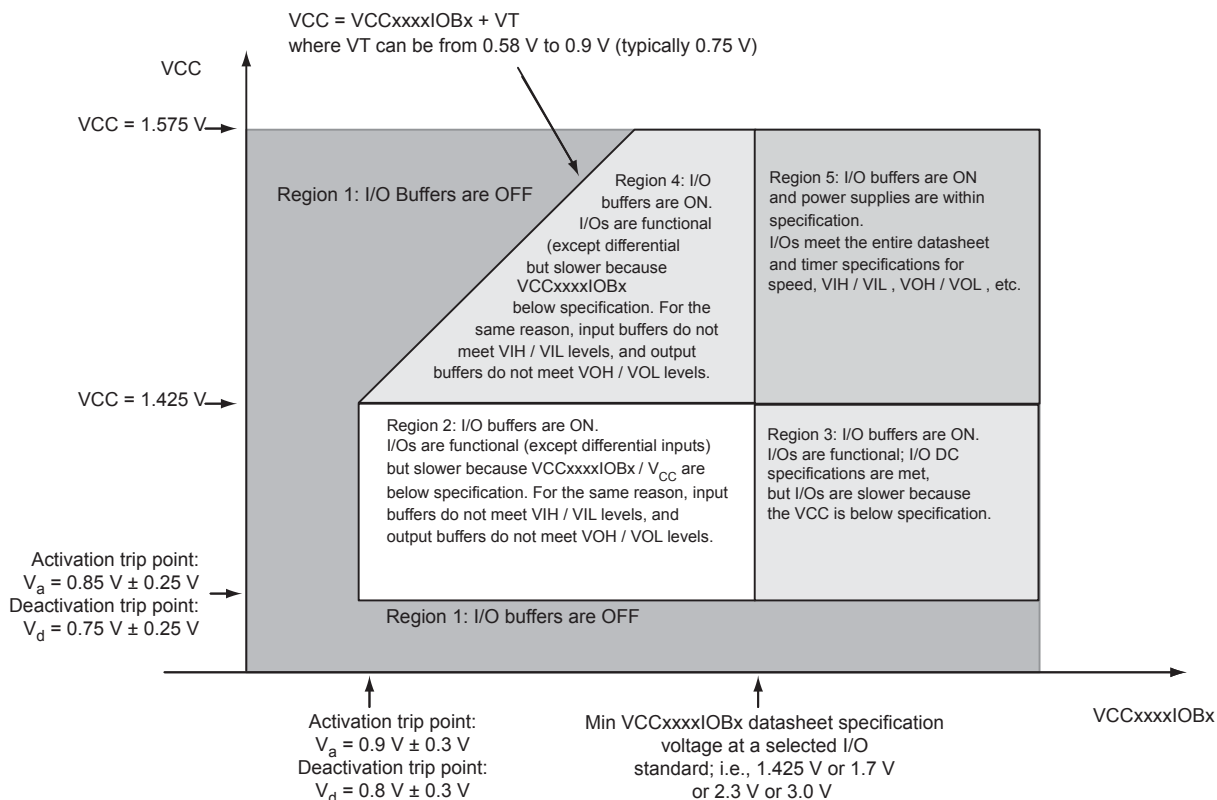

Figure 2-2 • I/O State as a Function of $VCC_{xxxxIOBx}$ and VCC Voltage Levels
Sophisticated power-up management circuitry is designed into every SmartFusion cSoC. These circuits ensure easy transition from the powered-off state to the powered-up state of the device. In addition, the I/O will be in a known state through the power-up sequence. The basic principle is shown in Figure 2-2 on page 2-6.
1. VCC and VCCxxxxIOBx are above the minimum specified trip points (Figure 2-2 on page 2-6).
The Microsemi SoC Products Group recommends using monotonic power supplies or voltage regulators to ensure proper power-up behavior. Power ramp-up should be monotonic at least until VCC and VCCPLLx exceed brownout activation levels. The VCC activation level is specified as 1.1 V worst-case (see Figure 2-2 on page 2-6 for more details).